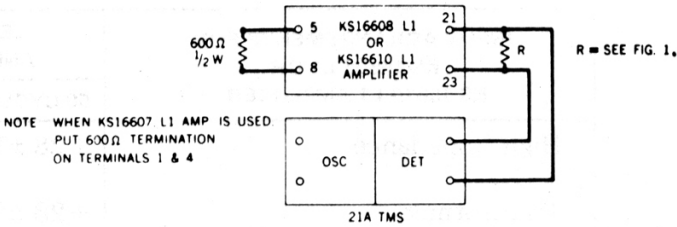

Fig. 6—Test Setup for Measuring Noise
| 2 | Connect the circuit as shown in Fig. 6. | |
6.01 Measure the unweighted amplifier noise as shown in Fig. 6. The 21A TMS is used to measure the noise since some of the noise levels are out of range of the 2B or 3A noise measuring set due to the high amplifier gain. The readings obtained are arbitrary readings and are not true noise levels since a DET (TMS) is not a direct